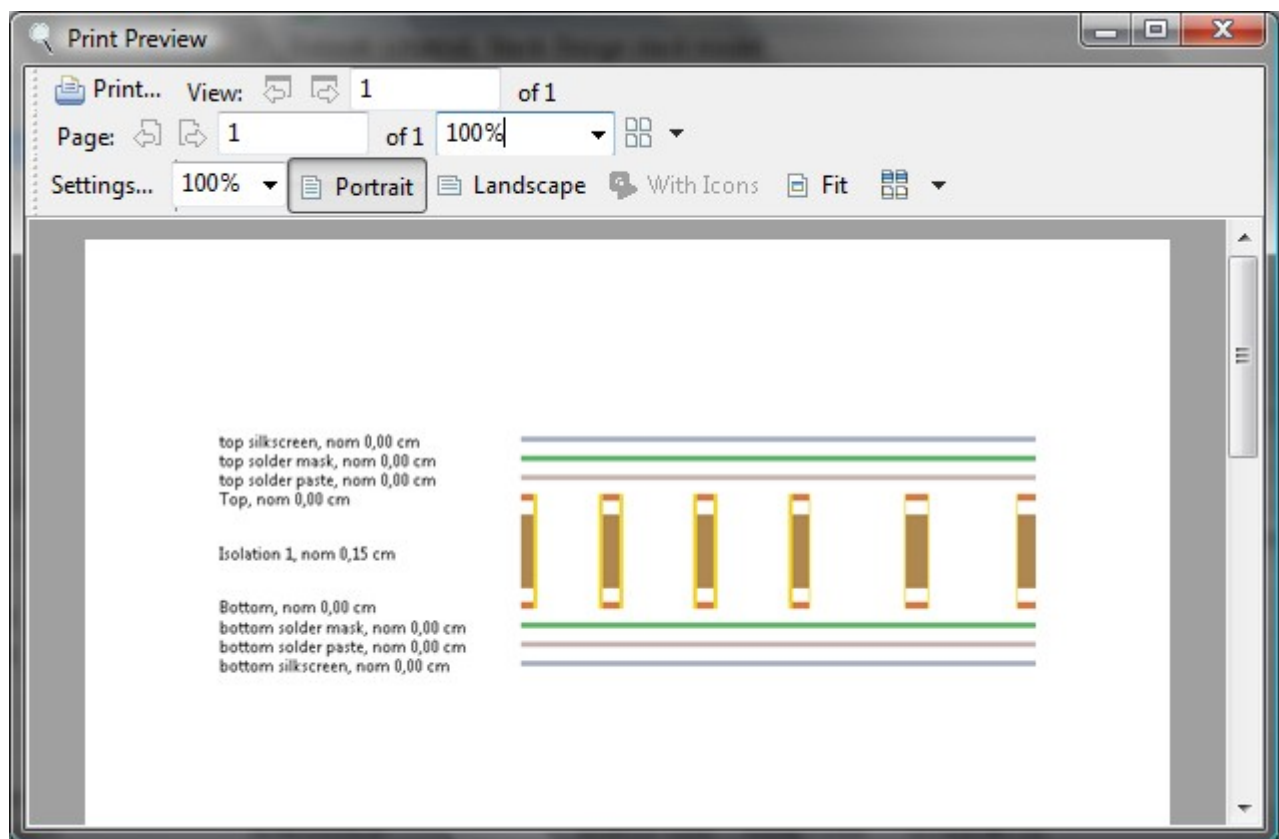

Figure 6. Drawing is fit to page
- **Fit to page** button - to turn On/Off the fit to page option. A single drawing, in spite of it's size, is fit to one page (see Figure 6).